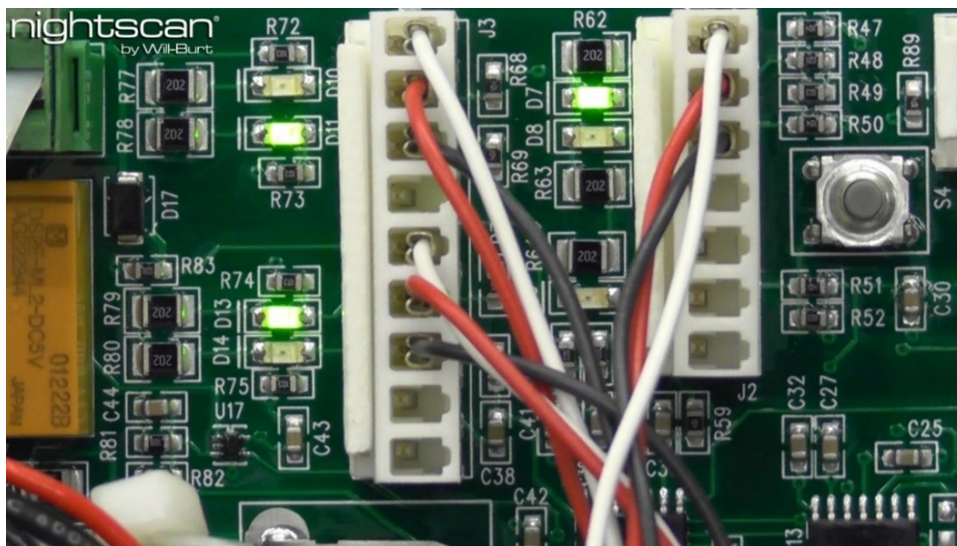

Figure 7-1 Diagnostic LEDs (stowed position example)
The PC Board mounted at the mast Base has LED indicator lights useful for diagnostics for circuits. Table 7-3 charts the colors of the relevant diagnostic LEDs for the various mast positions. An example of the diagnostic LEDs showing the mast in the stowed position is shown in Figure 7-1. These diagnostic LEDs can be used to help determine if an adjustment is necessary, for example if D7 / D8 shows Yellow when the mast is supposed to be stowed. They are also useful in assisting to determine when the switches have been properly adjusted.
6. Adjust the 90° Switch until it senses the actuator. This is indicated by the diagnostic LEDs on the Base Board (Figure 7-1).
6. Check that the mast is properly stowed. This is indicated by the diagnostic LEDs on the Base Board. As the mast comes down, D11 and D13 will be green, and D7 will be yellow. Once stowed, D7 will also turn green (see Figure 7-1).
3. Remove the left base cover to expose the base PC Board diagnostic LEDs (see Figure 7-1).